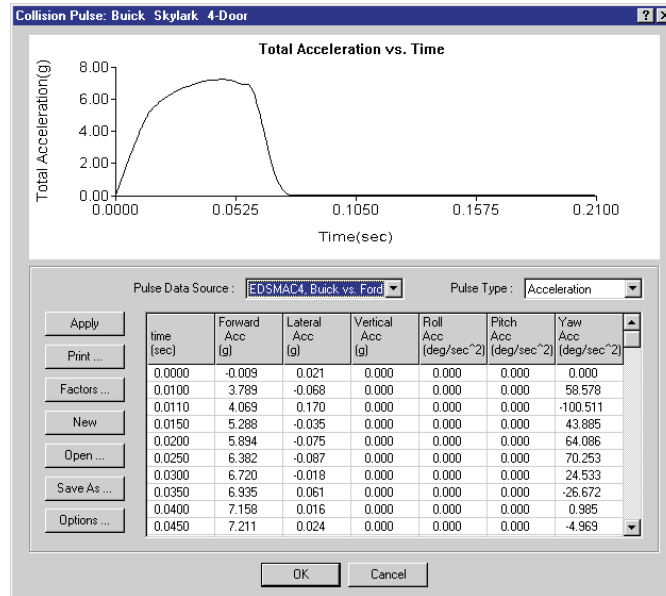

Figure 5-12 Collision Pulse dialog for Buick Skylark.
- Choose *Collision Pulse* from the Set-up menu. The collision pulse dialog is displayed (see Figure 5-12). Click on the *Pulse DataSource* option list and choose *EDSMAC4, Buick vs Ford*. The collision pulse (acceleration vs time history) for the Buick Skylark during the low-speed impact is displayed numerically (in a user-editable table) and graphically.